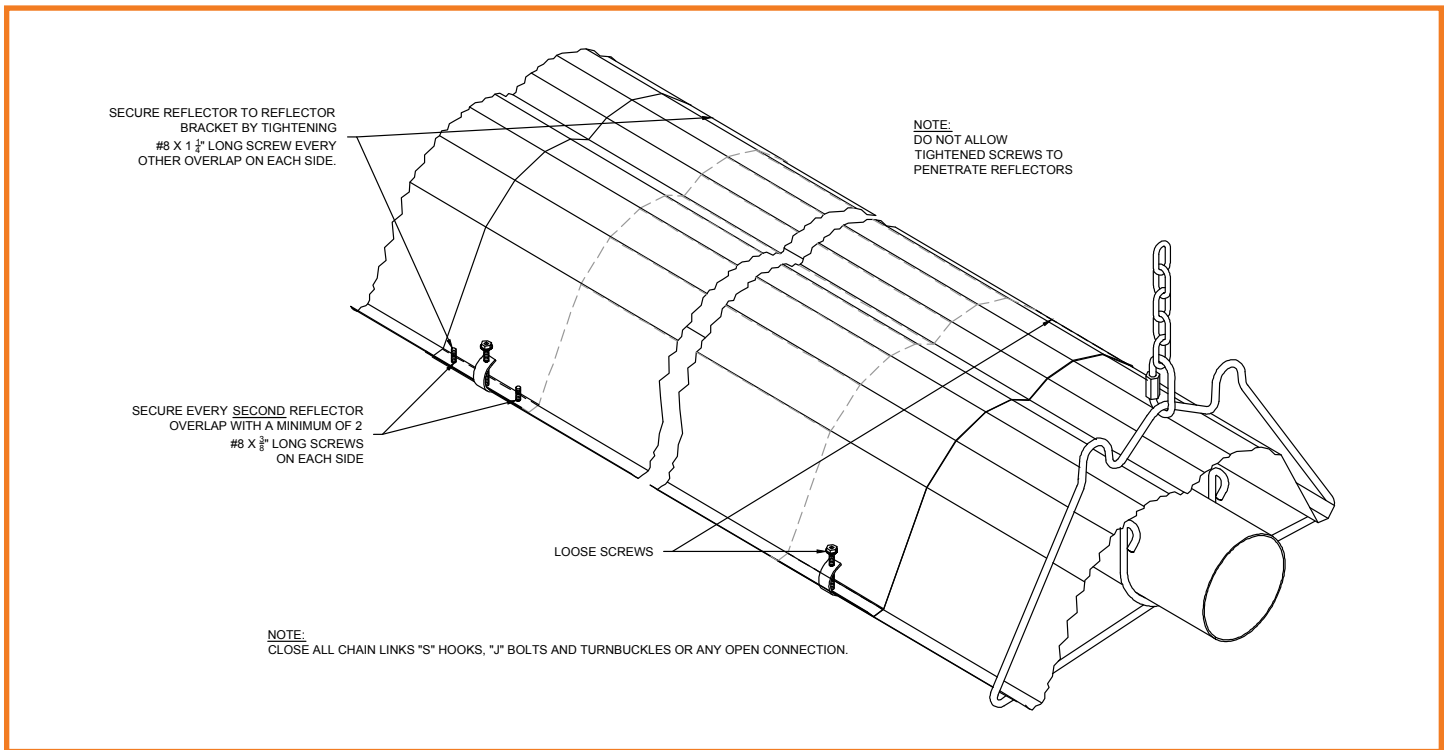

Figure 17: Reflector Supports Installation and Reflector Overlay Bracket Installation
- Secure every second reflector overlap together with a minimum of 2 - #8 x  $\frac{3}{8}$ " long screws (not supplied), and secure reflector to the reflector bracket at this point by tightening down #8 x  $\frac{1}{4}$ " screws supplied with reflector brackets (Figure 17). The remaining reflector overlap joints and reflector brackets are left loose to accommodate system movement.